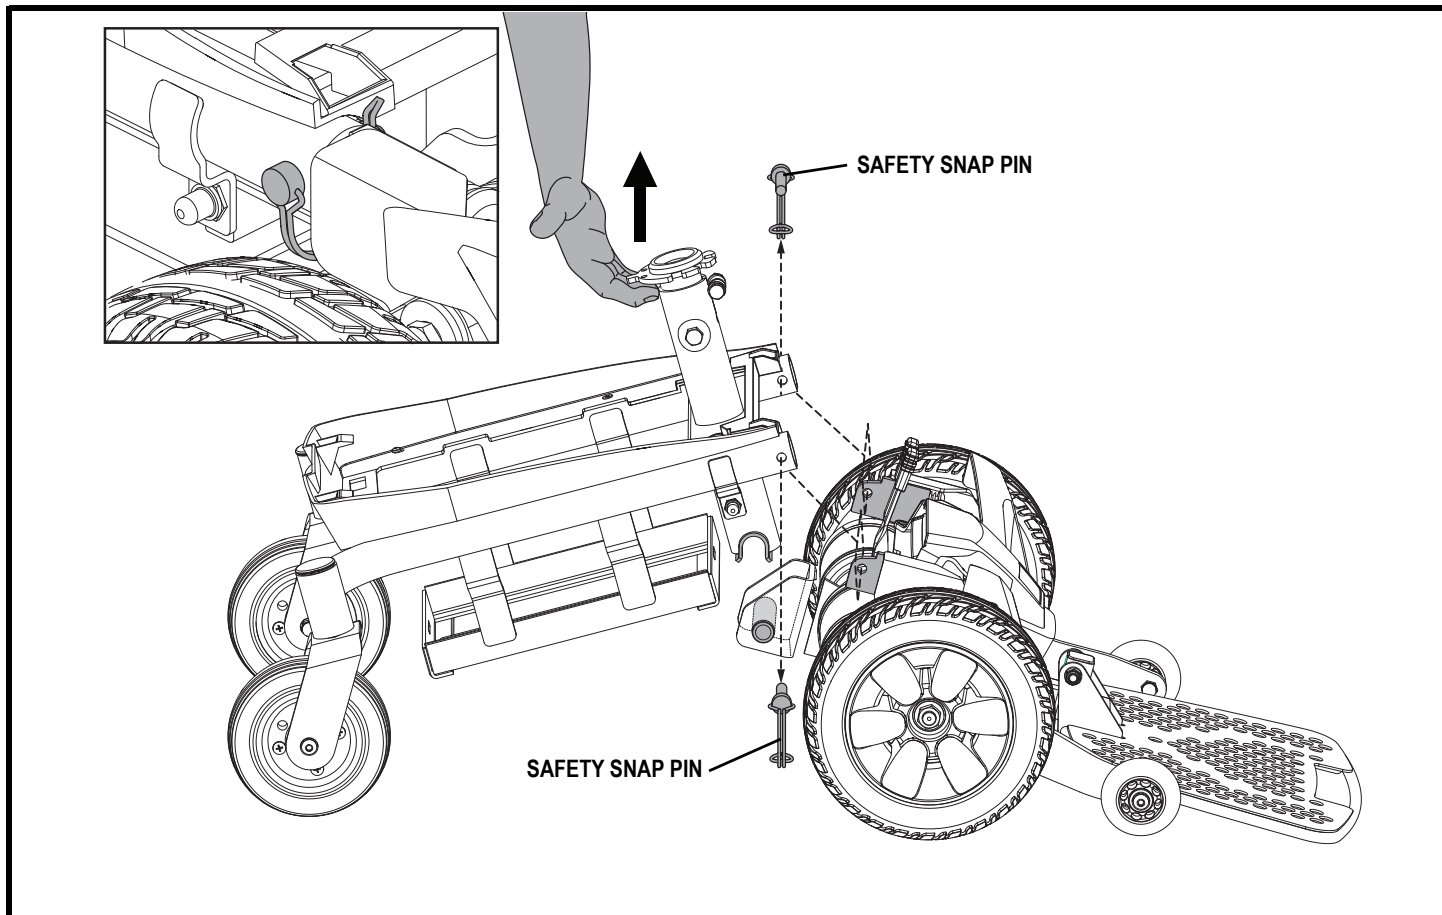

Figure 10. Separating the Jazzy Elite ES Portable and Jazzy Sport Portable Power Base
The Jazzy Elite ES Portable and Jazzy Sport Portable disassemble into several components: the seat, the shroud, the batteries, the rear section of the power base, and the front section of the power base. See figure 10.
10. Remove the safety snap pins that connect the rear section of the power base to the front section of the power base. See figure 10.